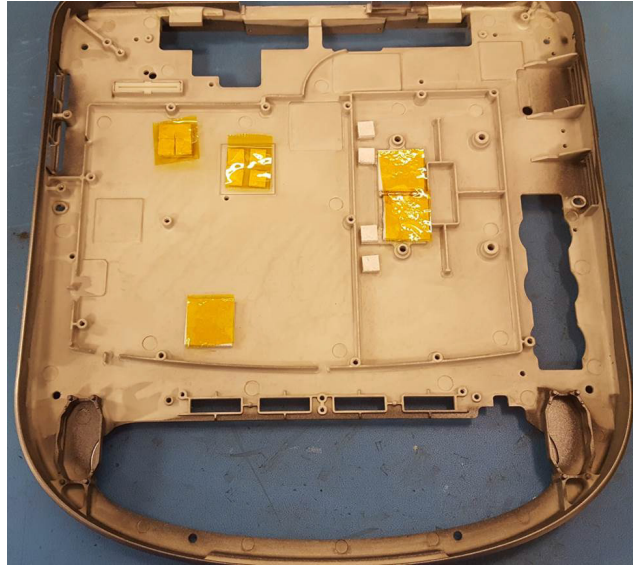

Figure 6.17 Midframe With Thermal Pads
Note: If the Main PCBA is replaced, the Service Assembly will come with the spring screw and a new set of thermal pads for installation on the midframe. Reference Figure 6.17. Locally sourced Kapton Tape will also need to be installed. If the system already has the new thermal pad/kapton tape arrangement, the replacement is not required.
- 1 Refer to Figure 6.17 for a view of the Midframe and thermal pad placement. Earlier systems had two-one inch pads in the upper left corner which are now each replaced by four of the smaller pads. The Kapton Tape prevents the pads from sticking to the components and allows for easier removal of the Main PCBA..